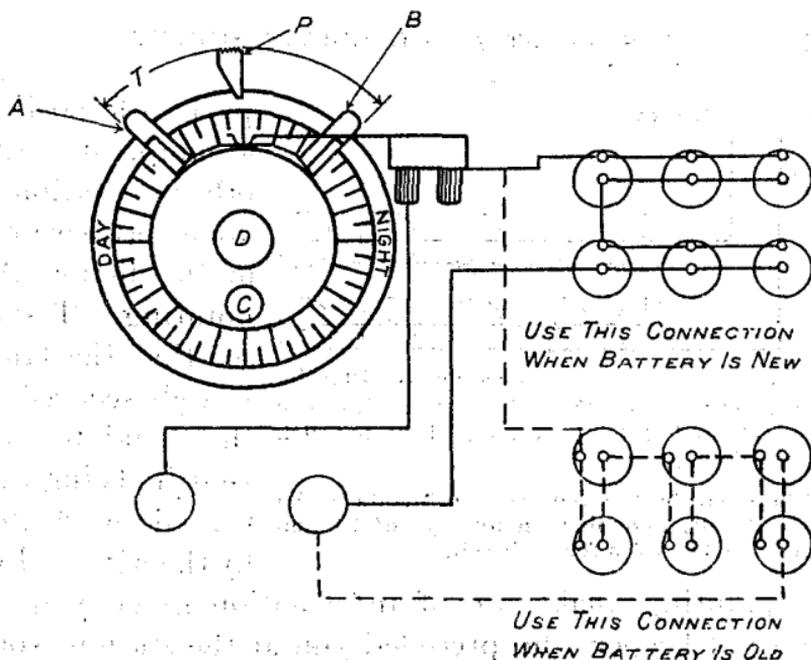

FIG. 6.—Battery connections for lamp with automatic clock control
*Setting the clock.*—Set the arms of the time switch at the proper time and period and make certain you have not mistaken night for day on the dial. Be sure the thumbscrews *C* and *D* (fig. 6) are very tight to prevent any slipping. Figure 6 is a diagram of the time switch and arrangement of cells with directions for setting the time switch.